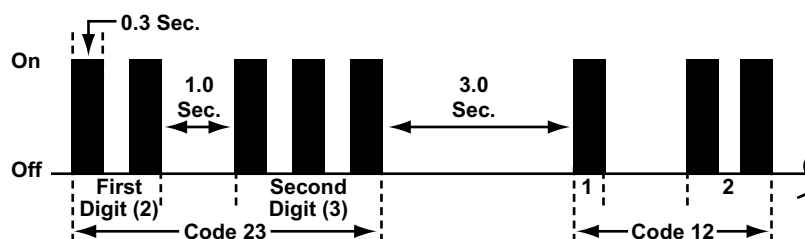

Figure 7-17 Transmission Code Type 01
- Type 01 transmission codes, see Figure 7-17 and Table 7-3